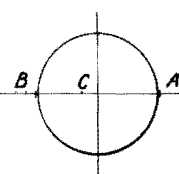

FIG. 11
4. Turn both couplings 180 degrees and measure the distance between coupling faces at A and B. (Fig. 11.)
At A (Fig. 11) distance between coupling faces = .049 inch.
At B (Fig. 11) distance between coupling faces = .018 inch.
5. To put the couplings in line when they are in this position, move turbine sideways so that reading at A (Fig. 11) equals .049 inch—.0035 inch = .0455 inch. Then reading at B (Fig. 11) must be .018 inch+.0035 inch = .0215 inch. The difference then will be .0455 inch—.0215 inch = .024 inch. To check turn both couplings back 180 degrees and the difference in readings should be .024.